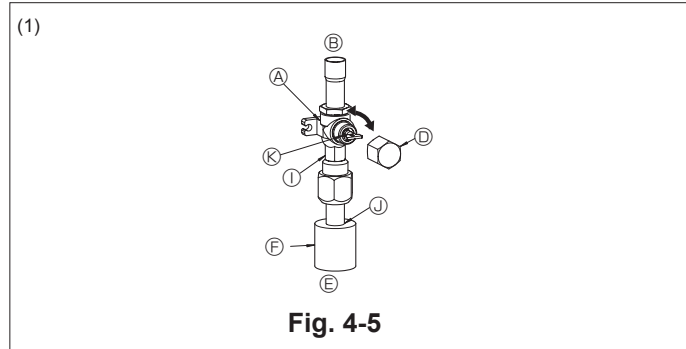
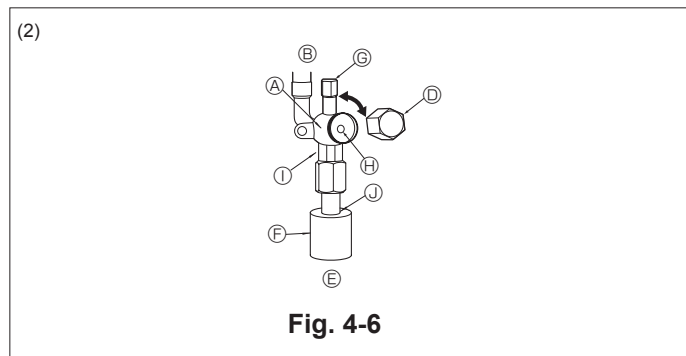

Fig. 4-5
Fig. 4-6
- (1) Gas side (Fig. 4-5)
- ① Remove the cap, pull the handle toward you and rotate 1/4 turn in a counter-clockwise direction to open.
- ② Make sure that the stop valve is open completely, push in the handle and rotate the cap back to its original position.
- (2) Liquid side (Fig. 4-6)
- ① Remove the cap and turn the valve rod counterclockwise as far as it will go with the use of a 4 mm hexagonal wrench. Stop turning when it hits the stopper. (ø6.35, 1/4 inch: Approximately 4.5 revolutions) (ø9.52, 3/8 inch: Approximately 10 revolutions)